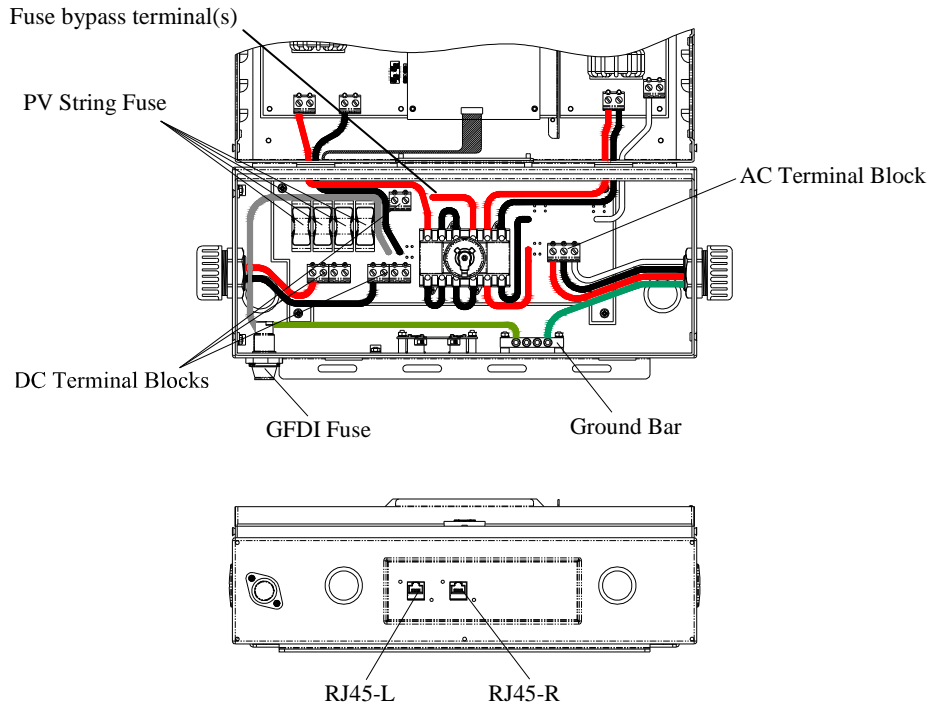

Figure 4.1.4 - Wiring Box (Front and Bottom View).
The following three sections describe the wiring for the AC, DC, and communication ports. The AC and DC wiring shall be done in the wiring box of the PVI 3000S/4000S/5000S/5300. There are a pair of DC terminal blocks, a DC fuse, a bypass terminal block, two (2) RJ-45 connectors, and one (1) AC terminal block in the wiring box as shown in the Figure 4.1.4. The DC terminal blocks are used to connect up to 4 PV strings that will parallel connected in the wiring box (3 strings for the PVI 3000S), or the fuse bypass terminal can be used if the fused combiner feature is not needed. The RJ-45 connectors are used for external communication to a remote computer or communication gateway. The AC terminal block is used to connect to the building/utility grid through a circuit breaker in the building distribution panel.